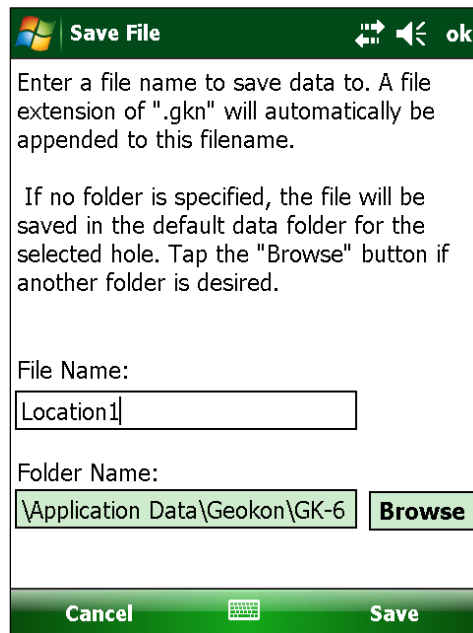

Figure 91 - Save File Dialog
11. Tap the “Yes” button to start the data saving process. The “Save File” dialog (Figure 91) will be displayed, allowing the user to name the data file to save.
14. Tapping “No” at the “File exists” dialog will again call up the “Save File” dialog (see Figure 91) and another opportunity will be given to select a new file.
8. Tap the “Yes” button to start the data saving process. The “Save File” dialog (Figure 91) will be displayed, allowing the user to name the data file to save.
11. Tapping “No” at the “File exists” dialog will again call up the “Save File” dialog (see Figure 91) and another opportunity will be given to select a new file.